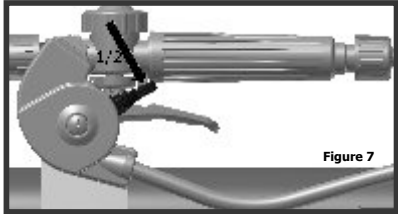

Figure 7
d) Place the throttle lever in the middle (1/2) of its speed - Figure 7